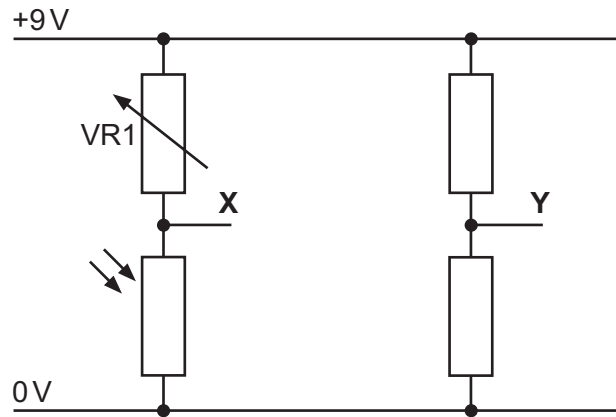

Fig. 12.1
12 (a) Fig. 12.1 shows part of the circuit for an LED night light.
- (iii) Calculate the voltage at point **X** in Fig. 12.1 when the resistance in VR1 is 110kΩ and the LDR resistance is 243 kΩ.
- (iv) The voltage at **Y** in Fig. 12.1 has been calculated to be 6.9V.